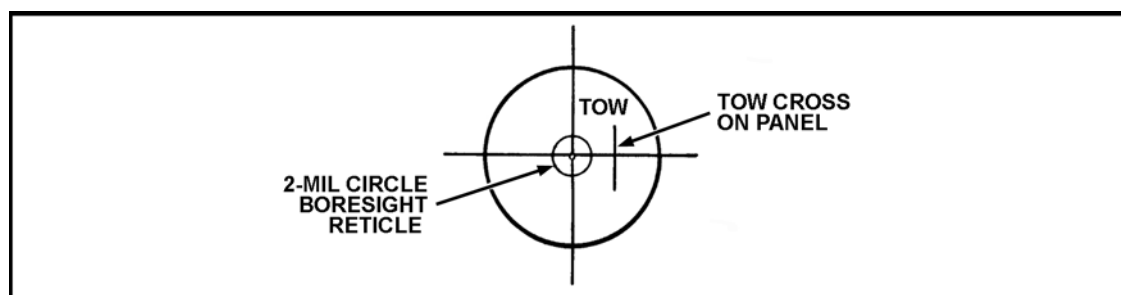

Figure B-50. Alignment of TOW cross and 2-mil circle.
(2) Place the 25-mm gun elevation select lever in the POWER mode.
- (3) Place the TOW elevation lever in the MANUAL mode.
- (4) (Helper) insert the boresight telescope into the alignment hole between the TOW launcher bores.
- (5) Press the TOW button.
- (6) Check that the TOW indicator light goes out when the self-test finishes.
- (7) Ensure that "TOW" appears on the status indicator.
- (8) (Helper) align the boresight reticle with the TOW cross on the panel.
- (9) Align the TOW reticle EL crosshair (horizontal) with the level line on the ISU cross of the panel using the TOW boresight screw.
- (10) Traverse to align the TOW reticle with the ISU cross on the panel (Figure B-50).
- (11) Determine launcher alignment error.
- (12) Adjust the launcher if the error is more than 1 mil.